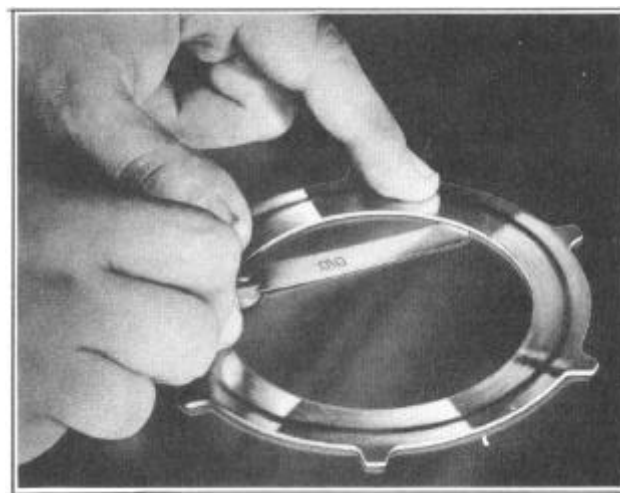

FIGURE 120
**NOTE :** If the dish is more than .010", the plate must be replaced. Check the plate on a flat surface using a .010" feeler gauge. Check for this clearance at the inner diameter of the plate, Figure 120.